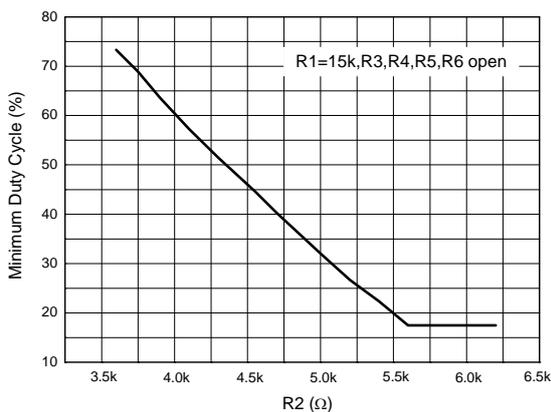

Figure 14
2. Decreasing R2 can increase minimum output PWM duty (see Figure 14).